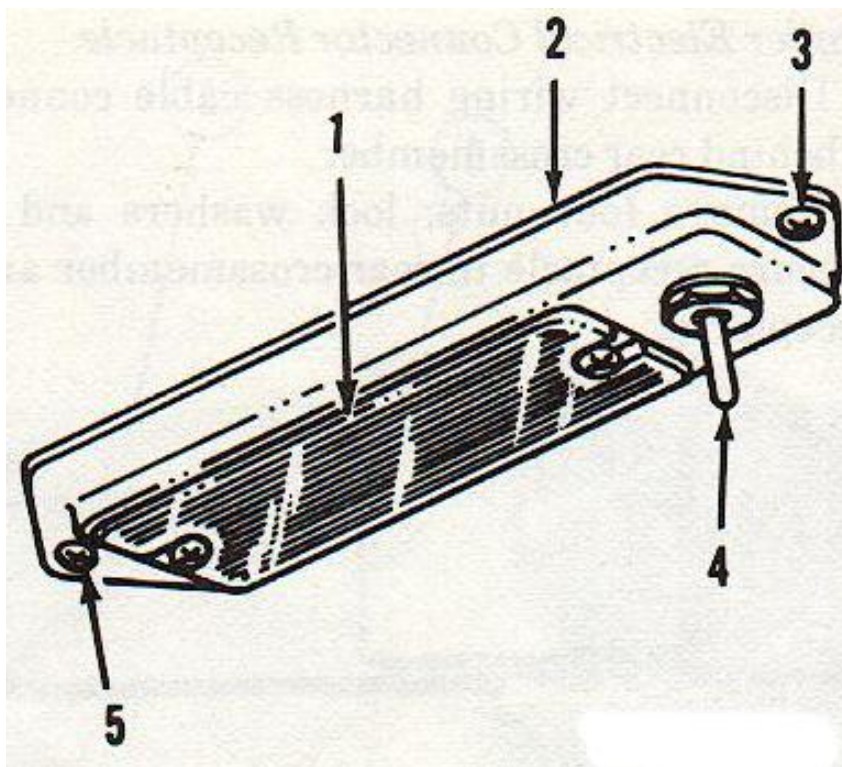

Figure 2-49. Dome light.
s. Dome Light Bulb. (Fig 2-49)
(1) Remove two screws which secure dome light lens to lamp body and remove lens.
(2) Remove bulb by turning counter-clockwise and pulling from socket.
t. Dome Light Housing and Switch. (Fig 2-49)
(1) Remove two screws which secure dome light housing to ambulance compartment ceiling.
(2) Lower light housing and disconnect wiring harness connector and remove housing.
(3) Remove ring nut which secures switch to light housing.
(4) Disconnect wiring harness connector from switch terminals and remove switch.